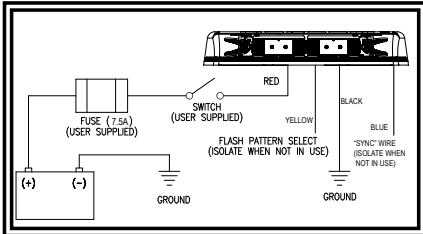

Figure 3
5. Connect the power wires as shown in the wiring section (see Figure 3).
The wiring for the permanent mount minibar is as shown in Figure 3. All wiring should be a minimum of 18AWG. The positive line must have a 7.5 amp fuse, as shown. A switch may be used to control the on/off function.